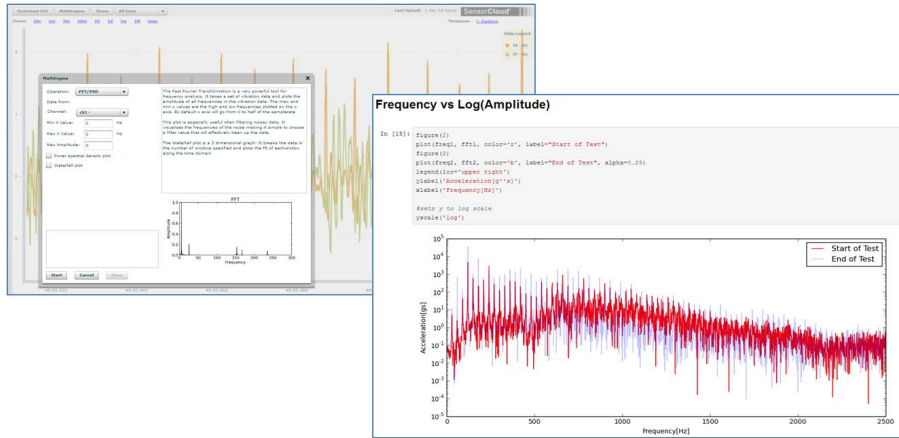

Figure 25 - MathEngine® View
**MathEngine®** - is used to analyze sensor data. Functions include the ability to filter out frequencies, smooth out noisy data, perform math operations such as Fast Fourier Transforms (FFTs), and more (*Figure 25 - MathEngine® View*). MathEngine® interfaces with the SensorCloud graphing view for faster processing. Users can write their own algorithms for custom applications. Refer to the MathEngine® website for more information.